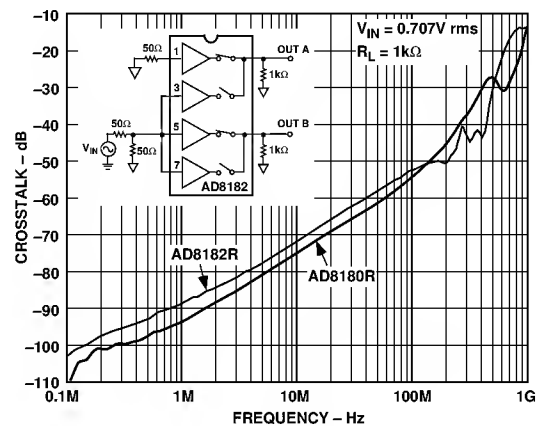

Figure 13. All-Hostile Crosstalk vs. Frequency
- ⁶Select input which is not being driven (i.e., if SELECT is logic 1, input activated is IN1); drive all other inputs with $V_{IN} = 0.707$ V rms and monitor output at $f = 5$ and 30 MHz. $R_L = 1$ k Ω (see Figure 13).